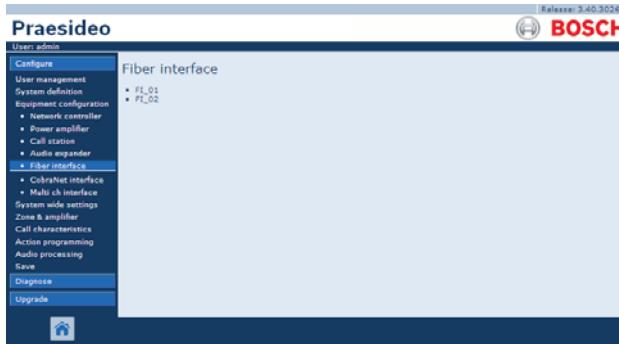

figure 43.32: Configure fiber interface step 1
- 1 Go to *Configure > Equipment configuration > Fiber interface*. A screen similar to the one in figure 43.32 appears in the main frame of the web interface.